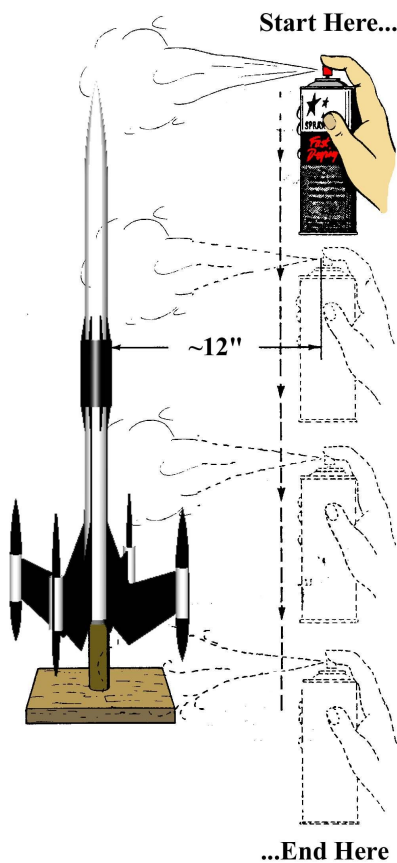

Figure 10
- Step 57** The illustration in Fig. 10 above shows the best method for spraying the model, for primers, paints, or gloss coats. It is also the best method regardless of the type of spray used, aerosol or airbrush. Always spray the model in a top-down fashion, with the spray starting above the model and ending below the model, to reduce the chances for splattering.